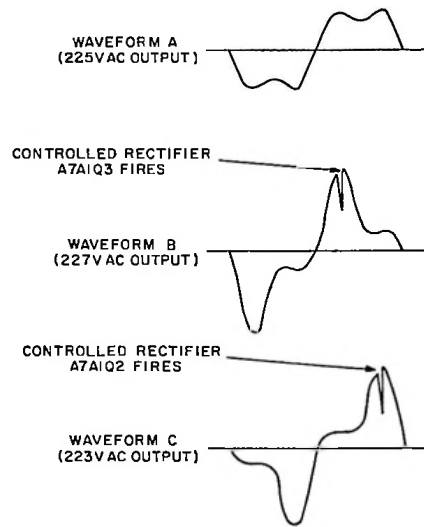

Figure 5-1. Error Amplifier A7A1Q1, Output Waveform
l. Adjust A7R1 until waveform A, figure 5-1, is obtained. Ensure that each half cycle of the waveform is symmetrical. The symmetrical waveform indicates that A7R1 is set properly for an output of 225 volts ac from variable transformer A7T1A.
n. Adjust LOWER SENSI potentiometer A7A1R8 until waveform B, figure 5-1, is obtained. Note that the drive motor operates.
p. Adjust RAISE SENSI potentiometer A7A1R7 until waveform C, figure 5-1, is obtained. Note that the drive motor operates.